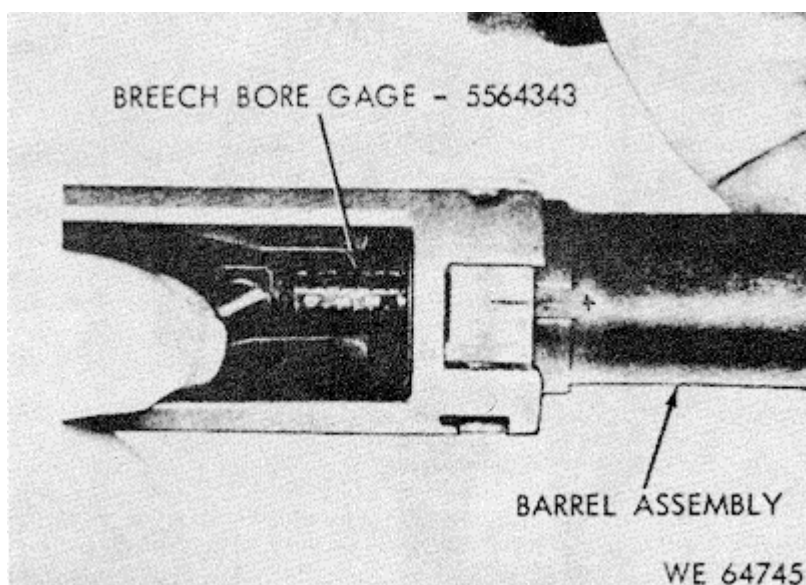

Figure 3-10. Gaging of breechbore.
1. Gaging Breech Bore. Barrels having been visually inspected and found serviceable will be gaged, using breech bore gage 5564343 as illustrated in figure 3-10. If gage readings exceed 0. 310 inch on barrels in hands of troops in field or 0. 306 inch at preembarkation inspection, such barrels will be replaced.
d. Check breechbore (fig. 3-10).